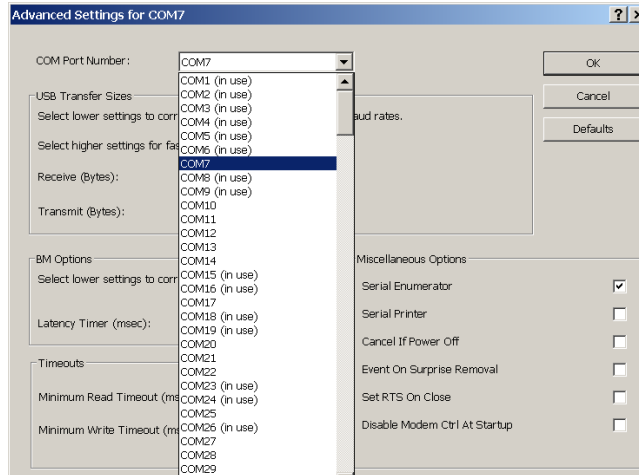

Figure 7 – Screen, Device Manager – COM Port Setting
- 8) Click the ‘**COM Port Number**’ drop down menu and select a COM Port (not in use) between 1 and 16 as shown in Figure 7.